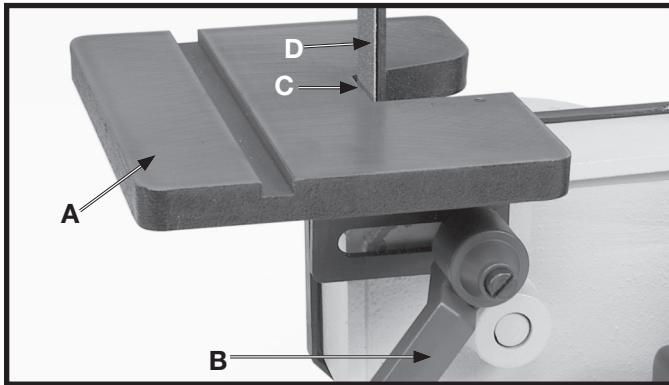

Fig. 25
The belt sander table (A) Fig. 25, can be tilted or moved in or out by loosening lock handle (B), moving the table to the desired position, and tightening lock handle (B). **NOTE:** The lock handle (B) is spring-loaded and can be repositioned by pulling out on the handle and repositioning it on the serrated locking stud located directly under the handle.
**WARNING** To avoid trapping the work or fingers between the table and sanding belt, the table edge (C) fig. 25, should be positioned a maximum of 1/16 inch from sanding belt (D) as shown.